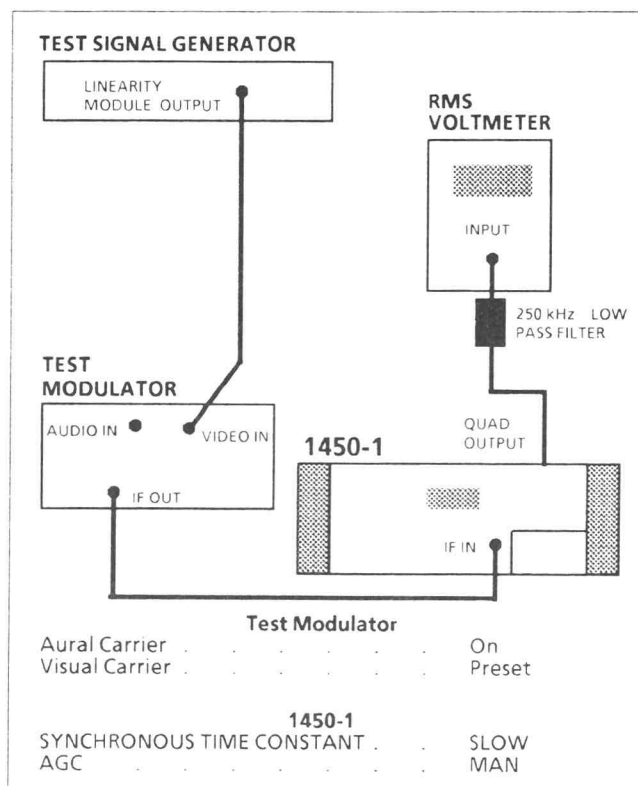

Fig. 4-24. Setup for checking low frequency phase noise.
- a. Connect and set the test equipment as shown in Fig. 4-24.